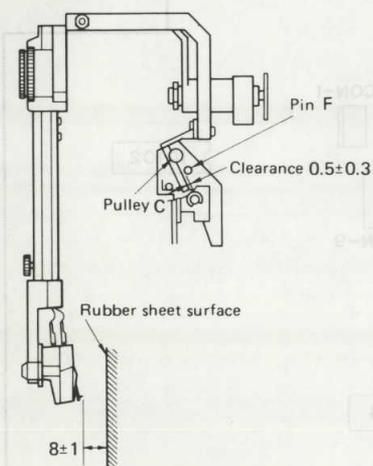

Fig. 2
- 2) With the tone arm raised, turn the cam pin E to adjust the stylus height such that its tip is  $8 \pm 1$  mm above the turntable. (See Fig. 2)